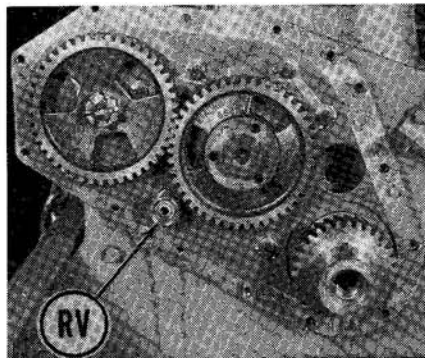

Fig. 53—Camshaft front (outer) gear removed to show oil pressure relief valve (RV) location on model "FMD" prior to serial No. 1425097.
**Fig. 51—Exploded view of typical oil pump assembly. Early model "FMD" pump did not have oil pressure relief valve (8) as valve was fitted in engine front plate; refer to Fig. 53. Refer to Fig. 52 for cross sectional view of latest pump.**